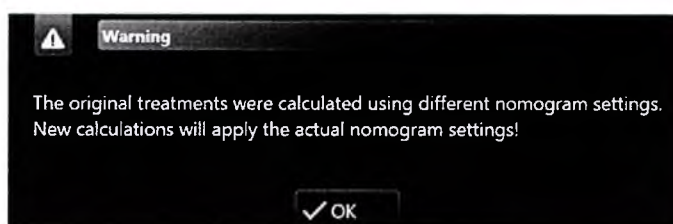

Fig. 105: Different nomogram settings warning message
- ⇒ A warning message opens if the selected treatment was calculated using different nomogram settings (Fig. 105).